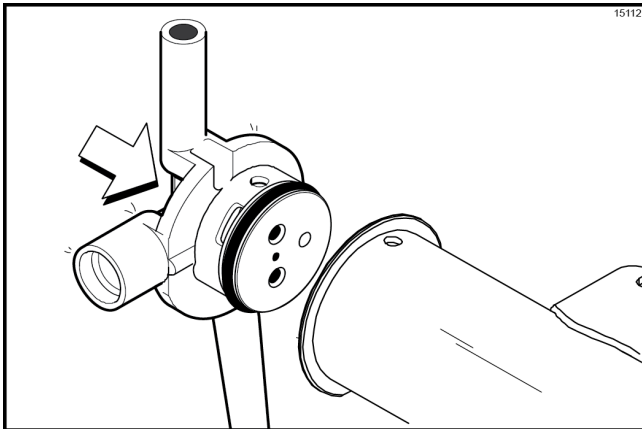

Figure-150
8. Insert the mix inlet assembly into the pump cylinder. (See Figure-150.)